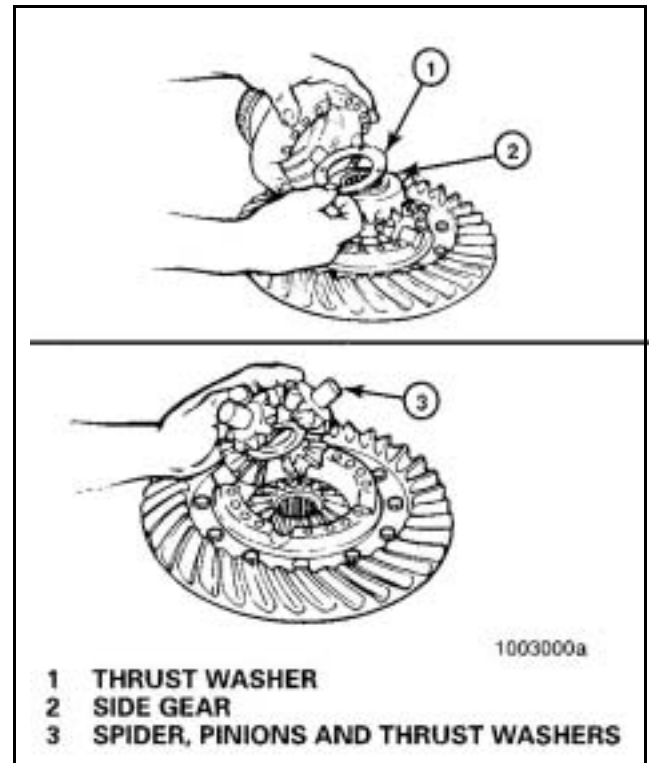

Figure 19
4. Remove the differential spider (cross), four pinion gears, two side gears and six thrust washers from inside the case halves. **Figure 19.**